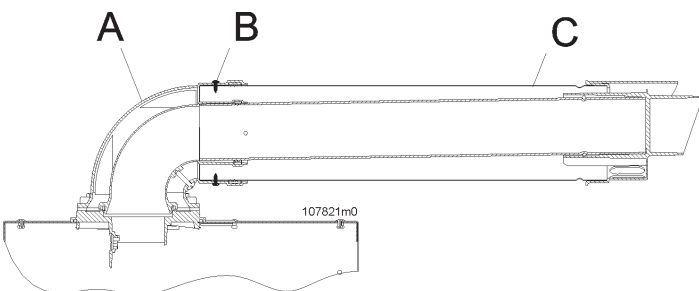

Figure 5-26 - Positioning the coaxial pipe
**ATTENTION !!!** Scrupulously follow the installation phases of the coaxial pipe as illustrated in figure 5-26. In particular: